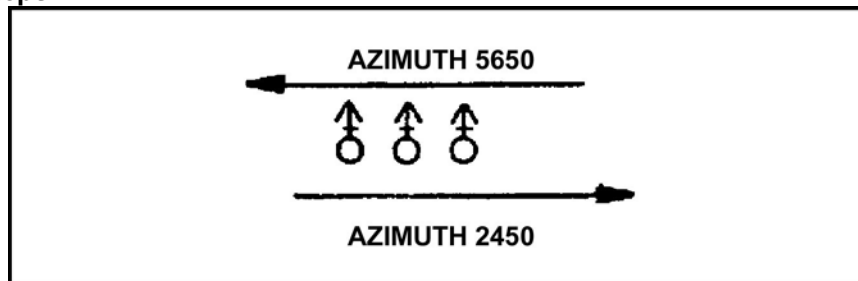
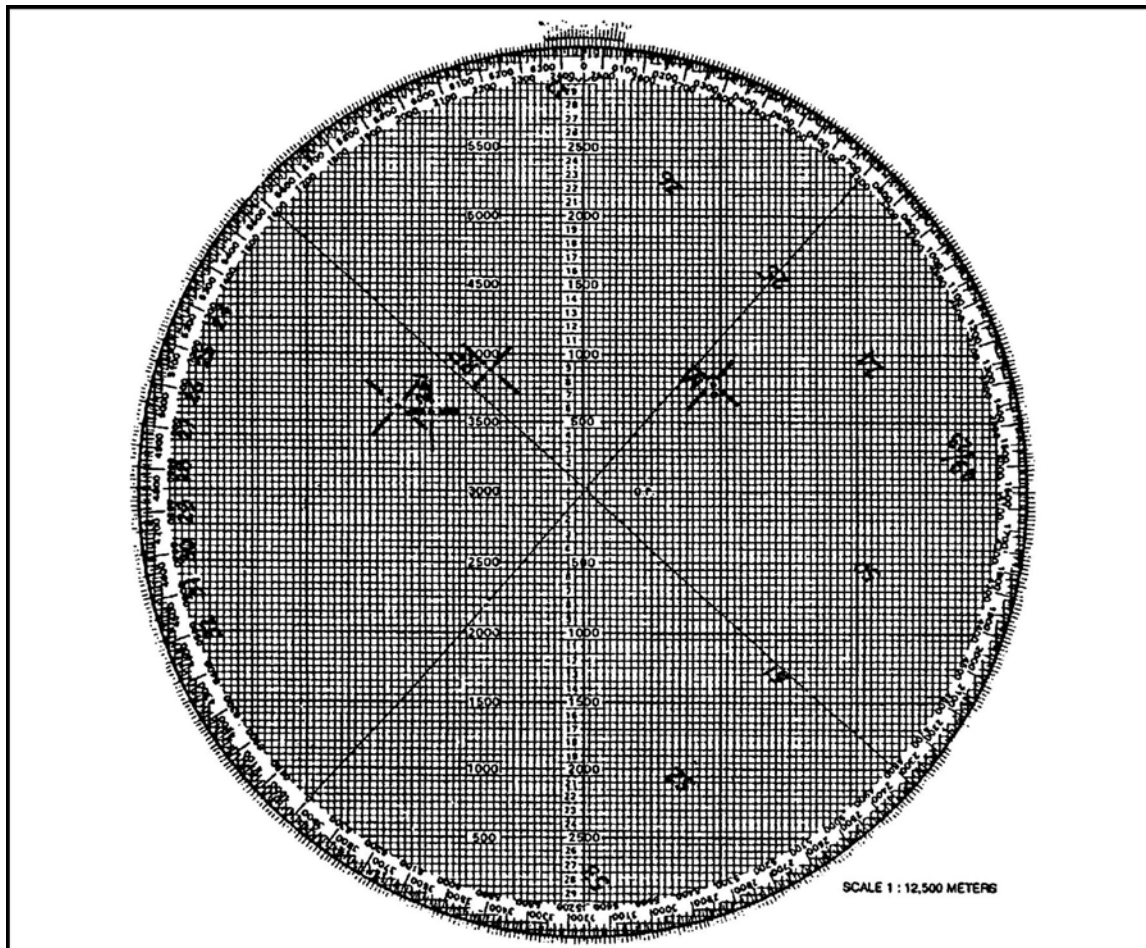

Figure 3. Attitude
Figure 4. Plotting of No. 1, 3, and 4 Mortars
- (1) To plot the mortars on the plotting board, the attitude of the mortar section must be known.
- (2) The attitude is the direction through the long axis of the gun section (Figure 3). Attitude is always determined to the nearest 100 mils and is always less than 3200 mils.
- (3) To plot the mortars—
- (c) To plot the No. 1 and 3 mortars, go 40 meters above (toward the top of the board) and 40 meters below (toward the bottom of the board) the No. 2 mortar plot and make small plots at those points to represent the No. 1 and 3 mortars. To plot the No. 4 mortar, go 80 meters below the No. 2 mortar plot (towards the bottom of the board) and make a small plot to represent the No. 4 mortar (Figure 4). Erase the arms of the hollow cross if they interfere with making those plots.